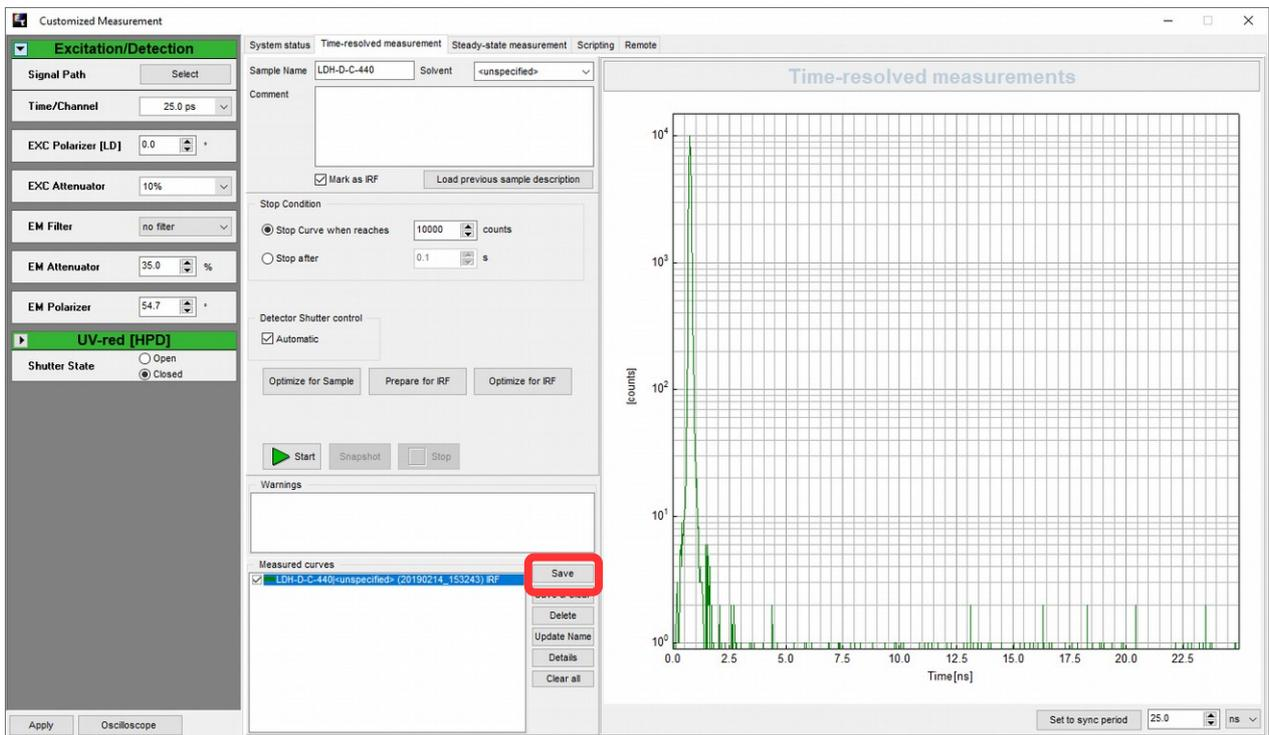

Fig. 35: Saving the measured IRF.
- When the measurement has finished, press the “Save” button (Fig. 35). The data will be saved in the currently open workspace.